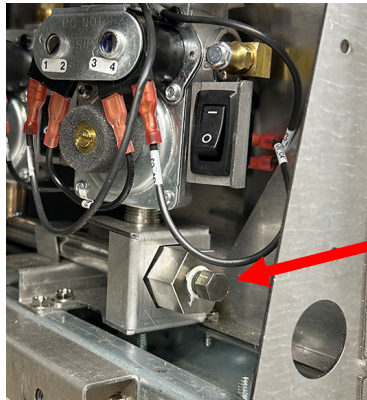

Figure 2
- 4) Attach a manometer to the inlet tap (see Figure 2).